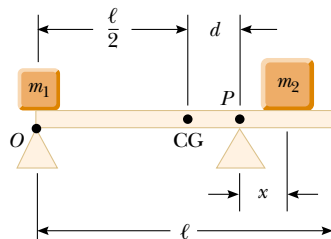

Figure P12.3
3.  A uniform beam of mass m_b and length ℓ supports blocks with masses m_1 and m_2 at two positions, as in Figure P12.3. The beam rests on two knife edges. For what value of x will the beam be balanced at P such that the normal force at O is zero?